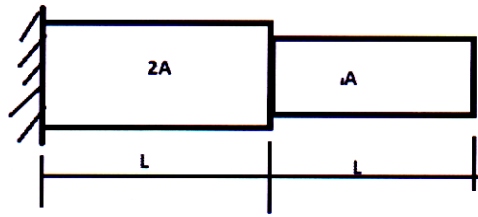

Figure 4
16. Find the natural frequencies of longitudinal vibrations of the same stepped shaft of area A and $2A$ of equal length(L), as shown in figure 4. Use consistent mass matrix.